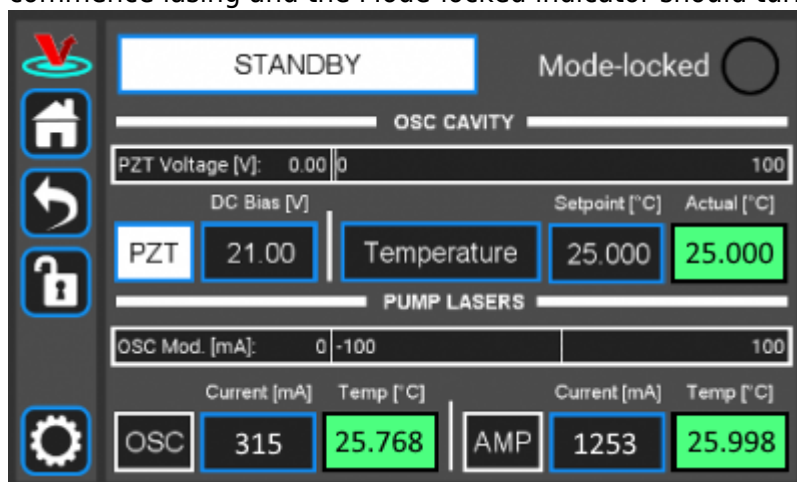
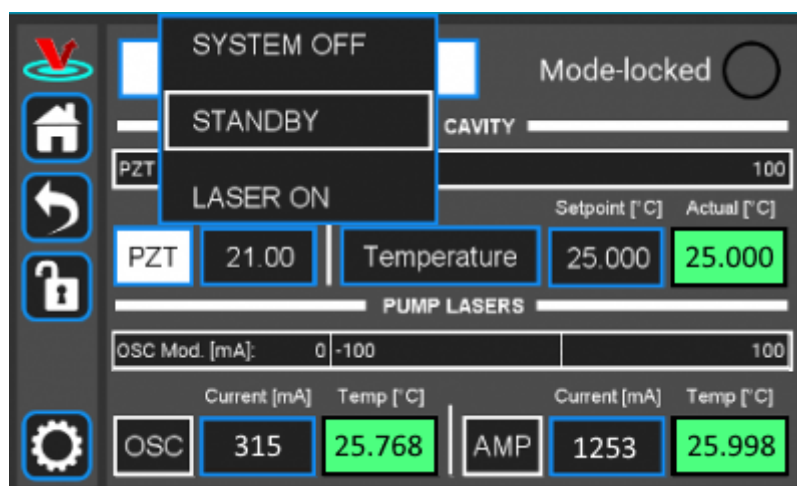
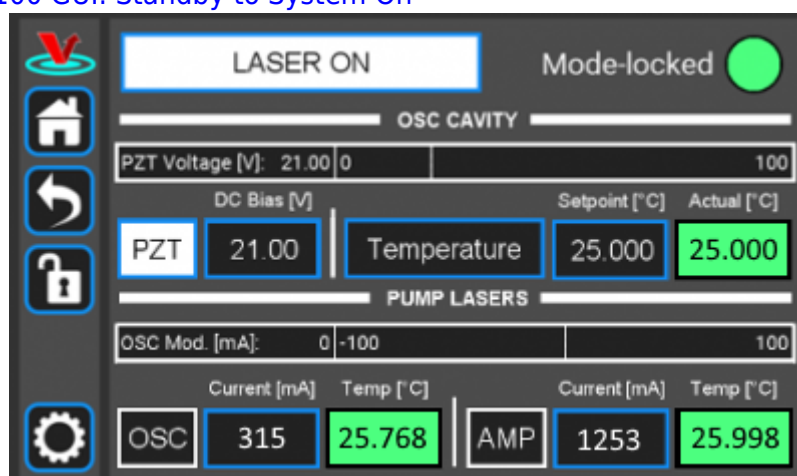

Fig. 16: The FFC-100 GUI: in
Fig. 17: The FFC-100 GUI: Standby to System On
Fig. 18: System On
2. Once the temperature servos have stabilized and “Standby” has stopped blinking, touch the “Standby” drop-down menu (figure 16) and select “Laser On” (figure 17). The FFC should commence lasing and the Mode locked indicator should turn green (figure 18).